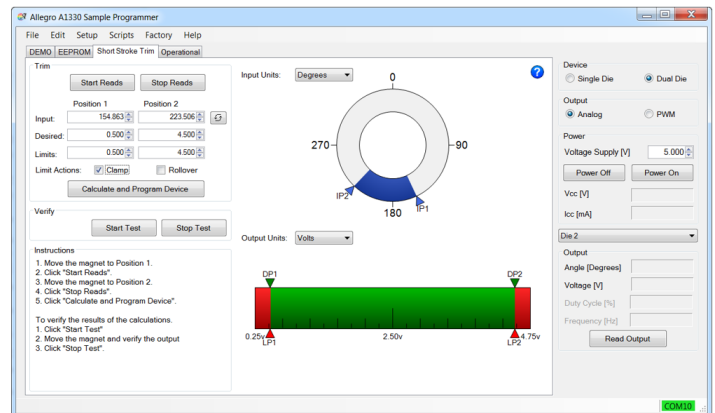

Figure 20: Adjusted Values in the Short Stroke Trim tab
3. With the output set to the desired values (see Figure 20 for example), select 'Calculate and Program Device'. This will set the appropriate EEPROM registers for the desired output.